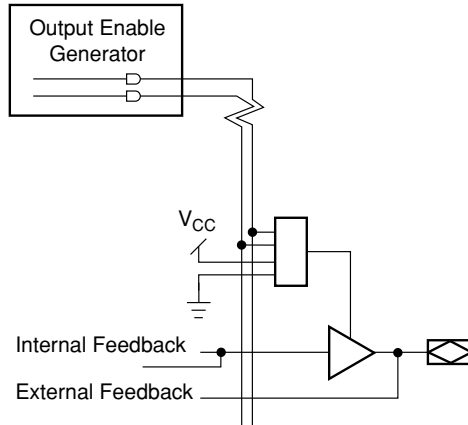

Figure 6. Output Enable Generator and I/O Cell
There is one output enable (OE) generator per PAL block that generates two product-term driven output enables. Each I/O cell is simply an output buffer. Each I/O cell within the PAL block can choose to be permanently enabled, permanently disabled, or choose one of the two product term output enables per PAL block (Figure 6).